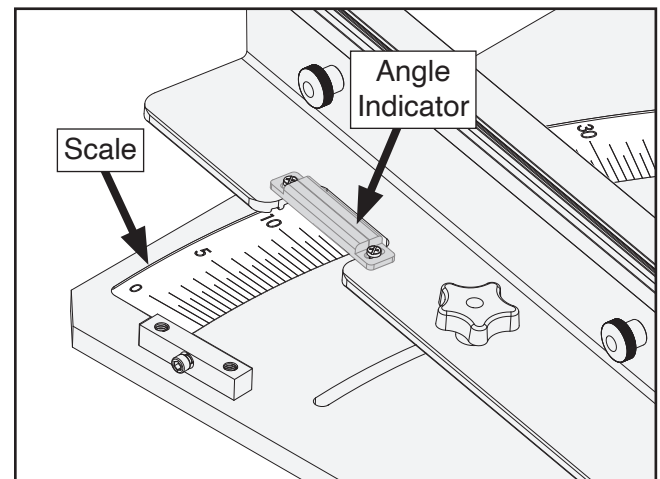

Figure 17. Location of angle indicator and scale.
3. Adjust fence until angle indicator aligns with desired angle on scale (see **Figure 17**), then tighten fence angle knobs to secure setting.